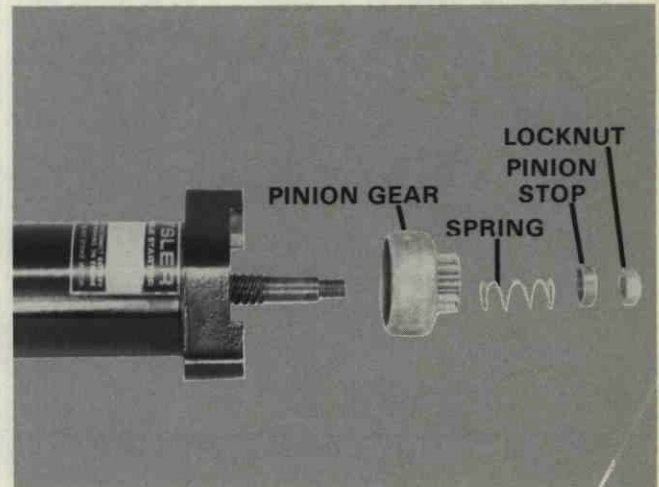

Figure 50. Disassembling Starter Motor.
1. Remove locknut, pinion stop, spring and pinion gear, Figure 50.